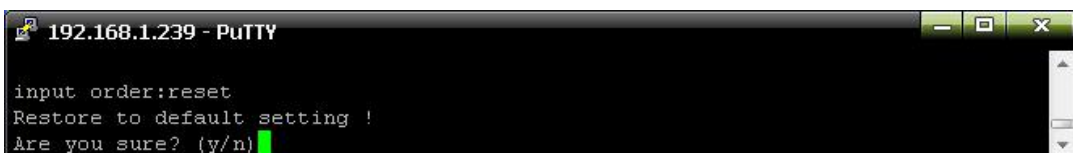

Figure 2-11
2.3.8: RESET command to restore to factory settings as figure 2-11